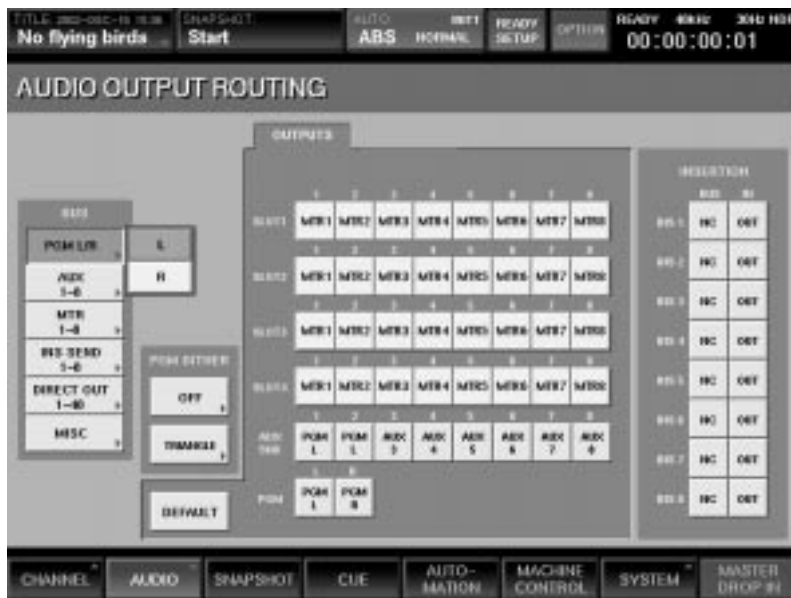

Figure 21
- To route that bus to Aux Send 2 as well, simply press the Aux Send 2 button. The left PGM bus output will now appear at both the Aux 1 and Aux 2 send output connectors. (See Figure 21)